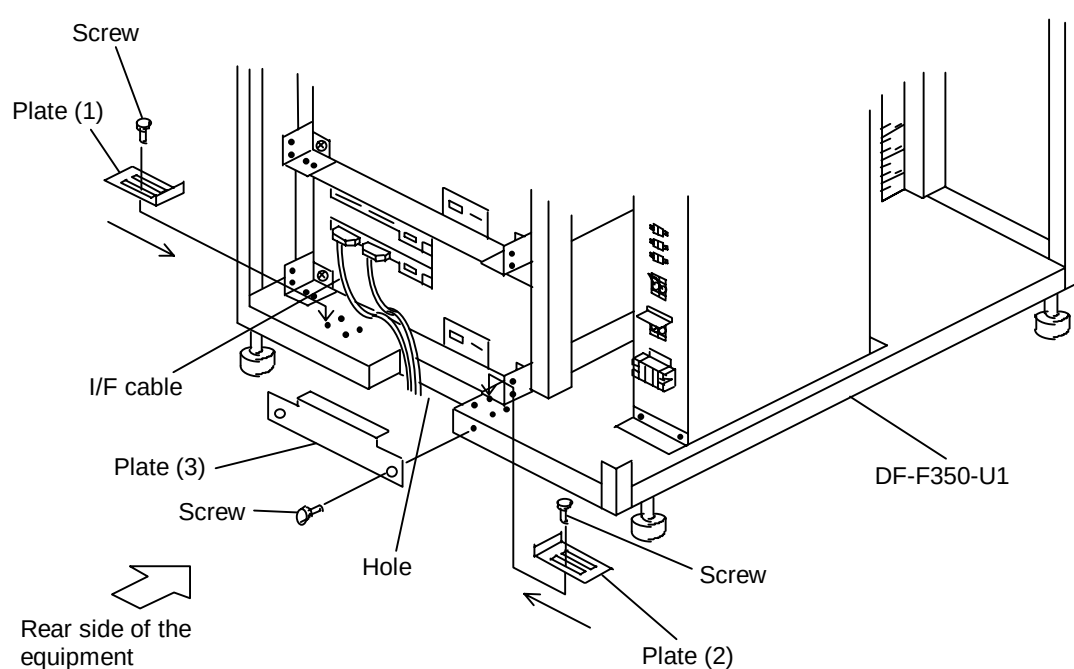

Figure 3.4.13 Fixing I/F Cable (Method '2')
(2) Fixing method '2'. (See Figure 3.4.13.)
- ① Loosen the screws, and remove plates (1), (2) and (3).
- ② Pass the I/F cable through the hole onto the floor. Tighten two screws. Attach plate (3).
- ③ Press the plates (1) and (2) against the cable in the direction of the arrows (→), and tighten four screws.